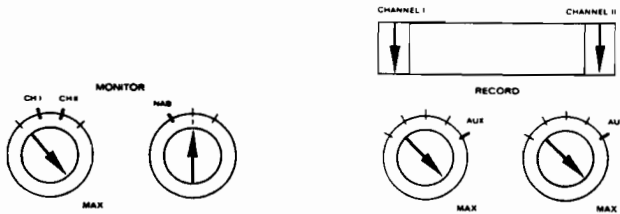

Fig. 6.6–80
- Set controls per fig. 6.6 –80
- Close record volume controls ( fig. 6.6–81 ).